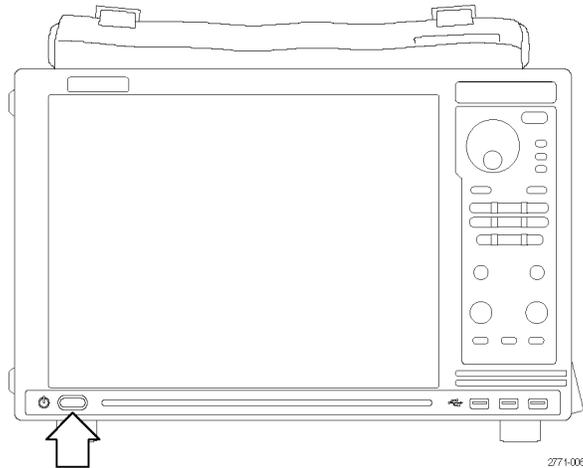

Figure 4: On/Standby switch location
3. Press the On/Standby switch to turn on the logic analyzer. (See Figure 4.)